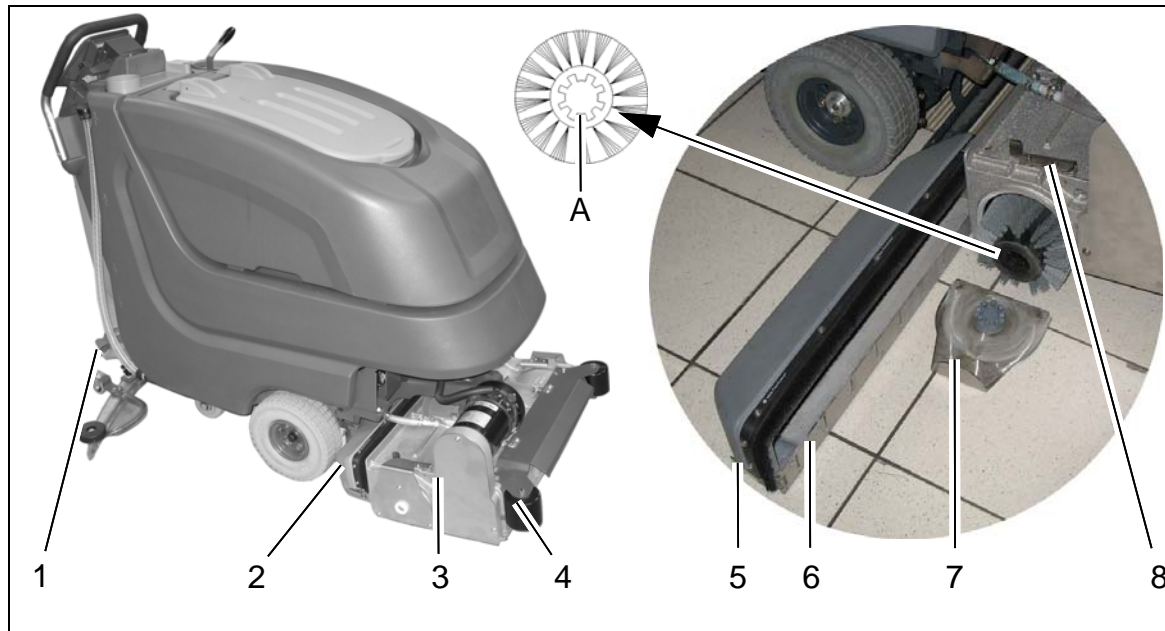

Fig.11
Clean dirt hopper (Fig. 11/2) at daily intervals or as required.
Remove dirt hopper from the right machine side (seen in direction of travel). Use quick-release (Fig. 11/5) to loosen feed inlet (Fig. 11/6) and clean dirt hopper.
1. Lift up cylindrical brush deck (Fig. 11/3) by pedal (Fig. 11/1).
2. Release brush seating (Fig. 11/7) by locking lever (Fig. 11/8).
Check roller bumpers (Fig. 11/4) at weekly intervals and replace if required.